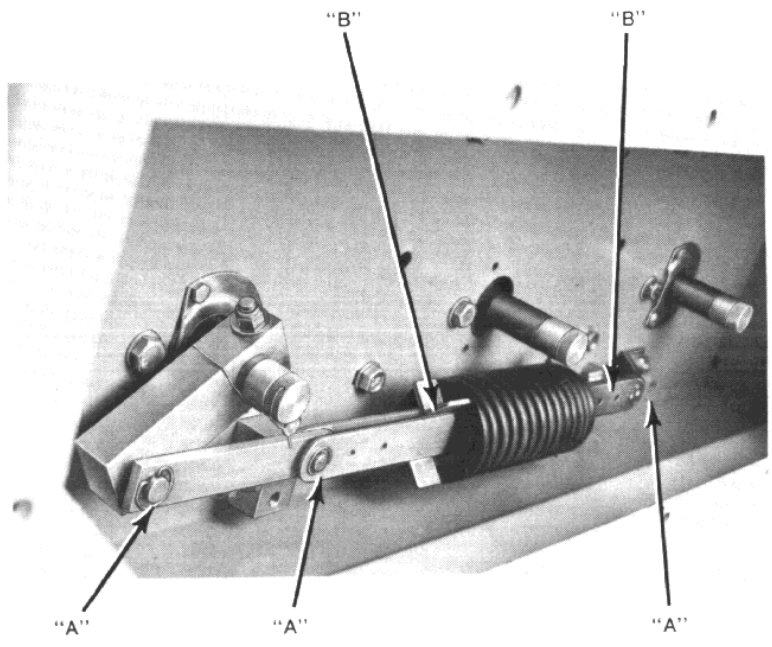

Figure 8
- 3. The opening spring should be lubricated at point A with oil and point B with grease. (Figure 8)